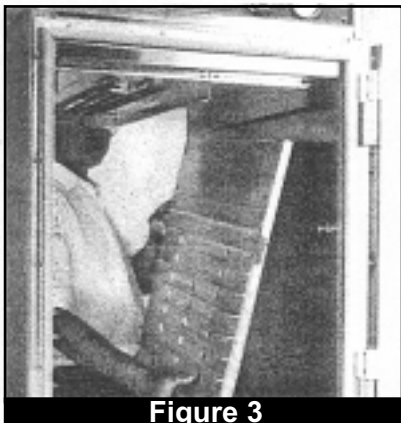

Figure 3
7. Remove tray supports by carefully lifting each panel and tilting the bottom toward the center of the cabinet. (Fig. 3)